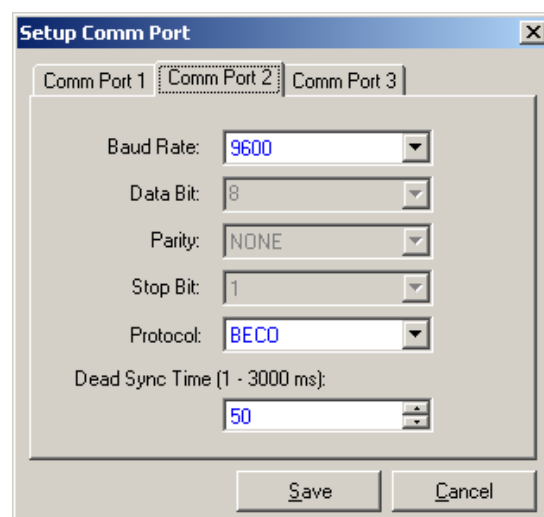

Figure 4-7 Setup Comm Port Dialog Screen
1. From the IPScm Main Screen menu select **Tools/Relay Communication**. IPScm will display the Setup Comm Port dialog screen (Figure 4-7).